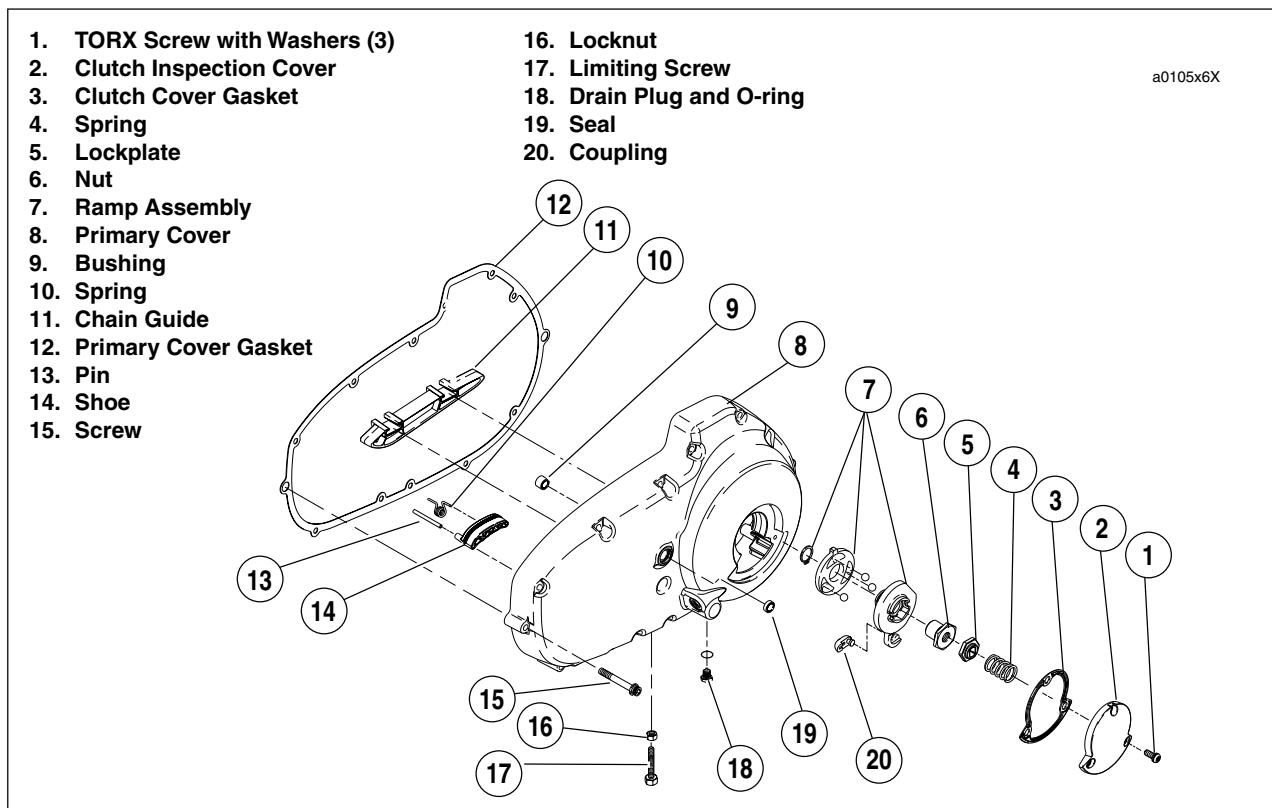

Figure 6-16. Clutch Release Mechanism
5. See Figure 6-16. Remove three TORX screws with washers and clutch inspection cover.
2. See Figure 6-16. Inspect three balls of release mechanism and ball socket surfaces of inner and outer ramps for wear, pitting, surface breakdown and other damage. Replace parts as necessary.